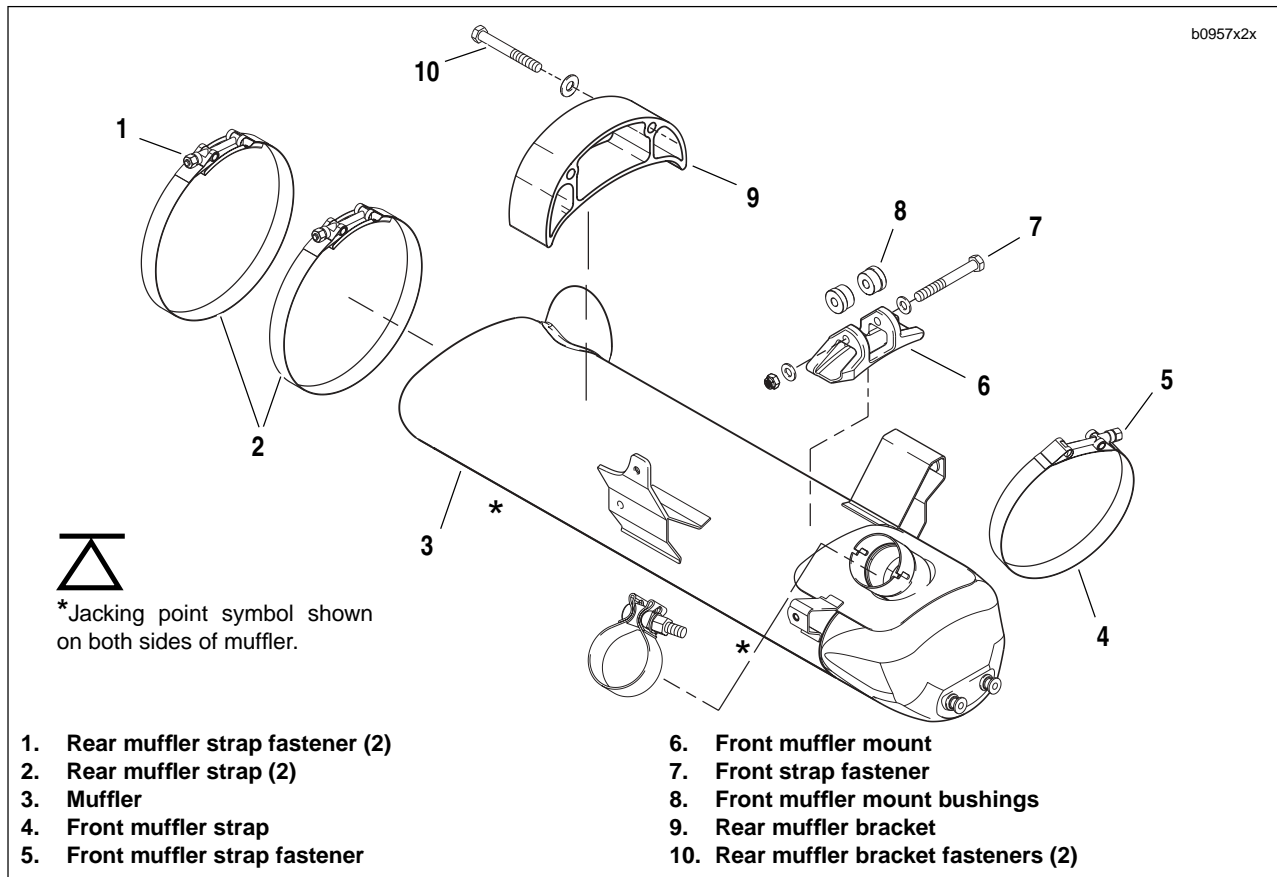

Figure 2-99. Muffler Assembly
4. See Figure 2-99. Loosen front muffler mount fastener (7) but do not remove.
2. See Figure 2-99. Remove front muffler mount fastener (7).
3. Remove strap (4) from front muffler mount (6).
4. Remove front muffler mount bushings (8) by punching out with suitable tool.
4. See Figure 2-99. Remove rear muffler bracket fasteners (10).
5. Slide oil lines from rear muffler bracket and remove rear muffler bracket (9).
1. See Figure 2-99. Slide rear muffler bracket (9) over oil lines.
2. Install rear muffler mounting bracket fasteners (10) and tighten to 32-36 ft-lbs (43-49 Nm).
1. See Figure 2-99. Install front muffler mount bushings (8).
2. Install strap on front muffler mount (6).
3. Install front muffler mount fastener (7) loosely. **Do not tighten.**
2. See Figure 2-99. Loosely install front and rear muffler straps (2, 4).
4. See Figure 2-99. Tighten front muffler mount fastener (7) to 22-25 ft-lbs (30-34 Nm).